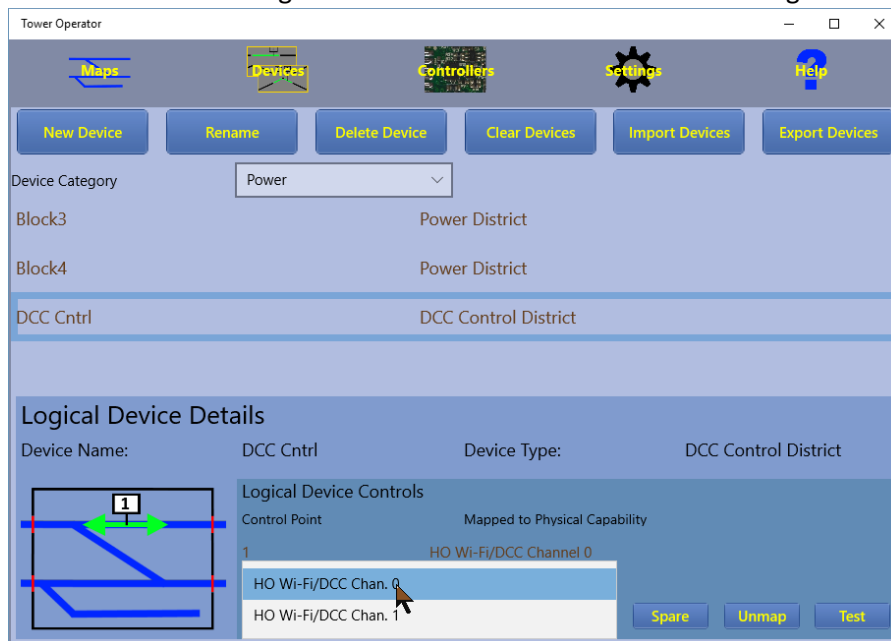

Figure 27 Assigning a controller channel to the DCC Control District Logical Device
- (3) Now select the newly created DCC Control District, select its control point 1 and in the drop-down selector at the bottom, select Channel 0 of the WFD-25, in Figure 27 named “HO Wi-Fi DCC Chan. 0”. This assigns the main track of the WFD-25 to the logical device.